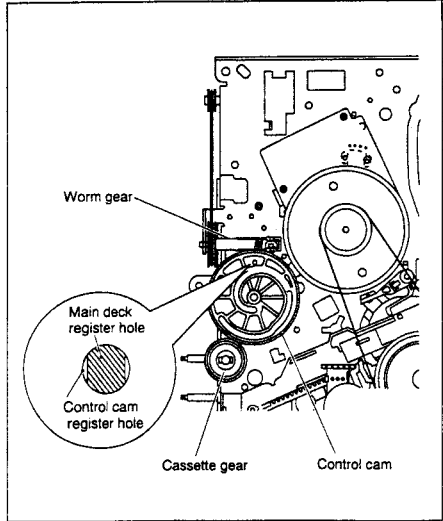

Fig. 2-3-4
- (1) Install the control cam as indicated in Fig.2-3-4 making sure of the front and back side alignment. Note here that the register hole of the control cam is in alignment with and allows passage through the register hole of the main deck.
- (2) Install the cassette gear by pushing it until it is locked with a clicking sound. (See Fig.2-3-4)